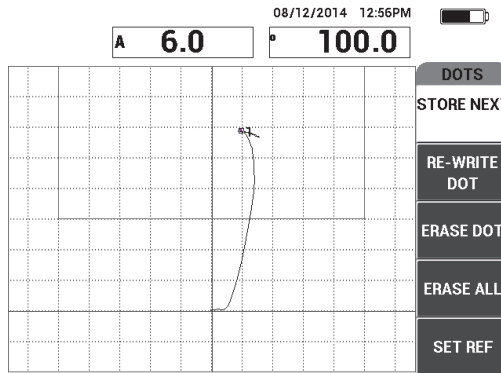

Figure 6-48 The first dot recorded
6. Press **STORE NEXT** (A key) to record the first dot (see Figure 6-48 on page 164).